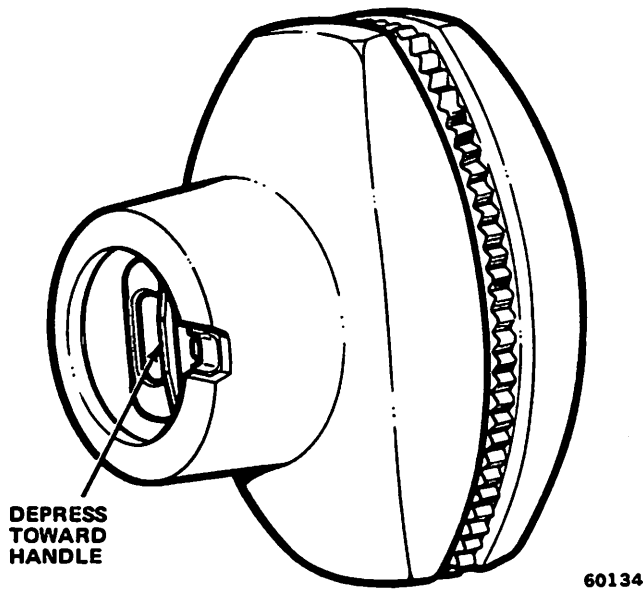

Fig. 3D-4 Fan Control Knob Locking Feature
(1) Rotate knob until slot in neck of knob is visible. Insert a small bladed screwdriver in the slot and depress spring metal clip toward knob. This will relieve tension on the spring metal clip and allow knob to slide off shaft (fig. 3D-4).